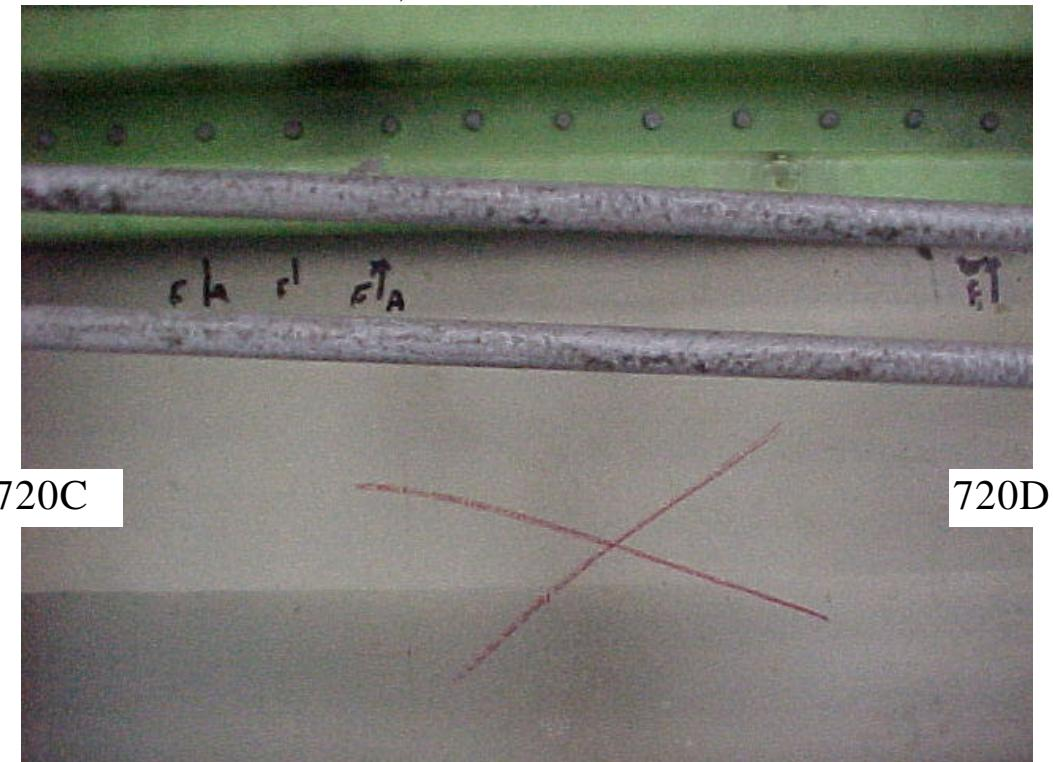

Figure C-16. Photograph of indication locations found during DVI and MFEC inspections. Stringer 4R, BS 720C to BS 720D.
- FIGURE C-16 Photograph of indication locations found during DVI and MFEC inspections.